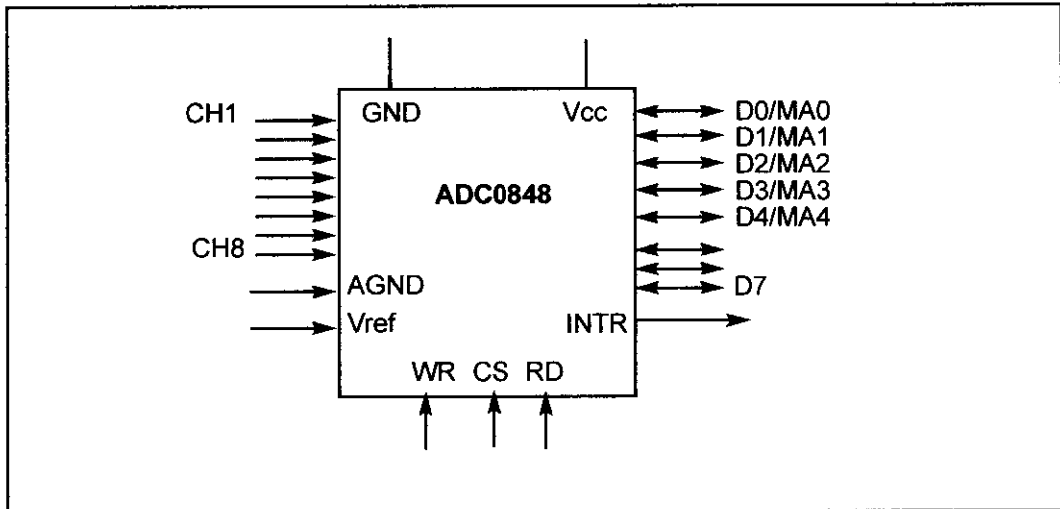

Figure 12-13. ADC0848 Block Diagram
**MA0 - MA4** (multiplexed address). The ADC0848 uses multiplexed address/data pins to select the channel. Notice in Figure 12-13 that a portion of the DB0 - DB7 pins are also designated as MA0 - MA4. The D0 - D7 pins are inputs when the channel's address is sent in. However, when the converted data is being read, D0 - D7 are outputs. While the use of multiplexed address/data saves some pins, it makes the I/O interfacing more difficult as we will soon see.
**WR** (write; a better name might be "start conversion"). This is an input into the ADC0848 chip and plays two important roles: (1) It latches the address of the selected channel present on the D0 - D7 pins, and (2) it informs the ADC0848 to start the conversion of analog input at that channel. If  $CS = 0$  when WR makes a low-to-high transition, the ADC0848 latches in the address of the selected channel and starts converting the analog input value to an 8-bit digital number. The amount of time it takes to convert is a maximum of 40 microseconds for ADC0848. The conversion time is set by an internal clock.